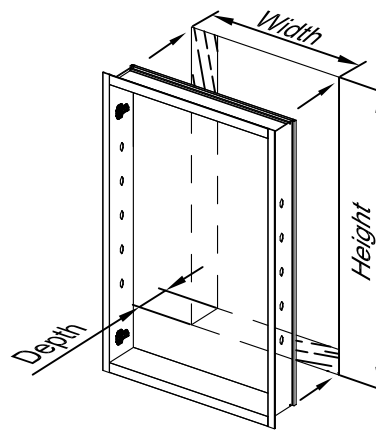

Fig 3
2. Make sure hinges are on correct side of opening for left hand or right hand operation. Place cabinet box into rough opening. On fully recessed applications, make sure cabinet flange covers rough opening evenly all around (Fig 3). On semi-recess applications, mirror edges should meet wall surface. (Fig 4). Shim as needed.